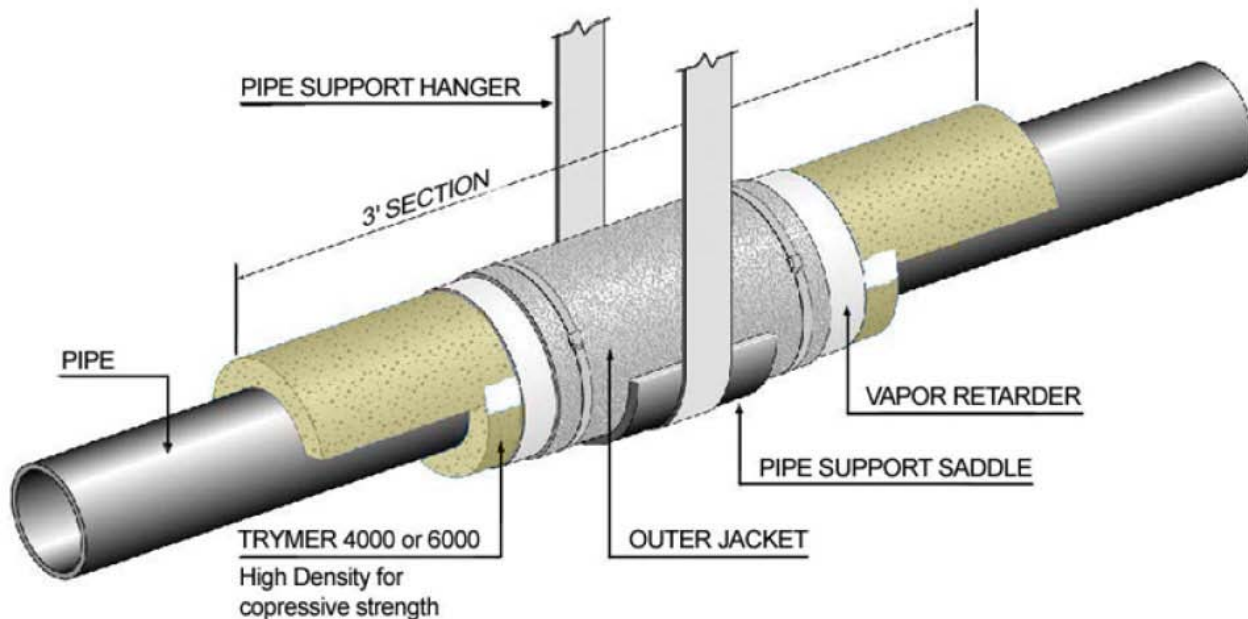

**Figure 4**
- 4.1.4 If a double layer system is required, all fittings shall be double layered. Fittings may be cut to full thickness in lieu of double layered if they are fabricated with shiplap butt ends. Depth of the shiplap shall be cut to the thickness of the inner layer to allow the outer layer to overlap creating a staggered joint. Refer to Figure 4 in Appendix B.